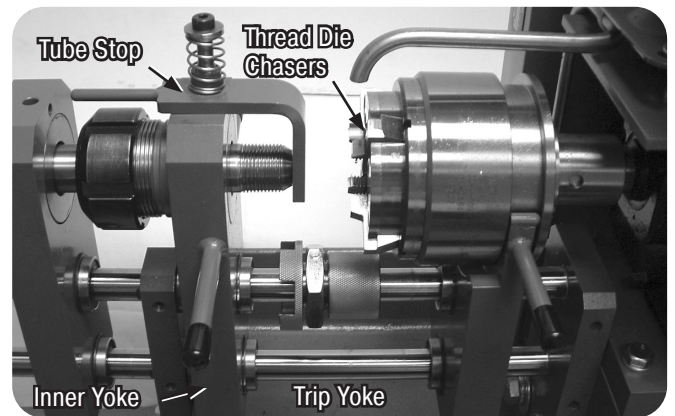

Figure 10
5.5.1 Rotate tube-stop 90° to the left by lifting up, rotating and letting down (Figure 10). Insert coned, unthreaded tubing loosely through both collets. Bottom tube end against tube-stop and tighten collet nut on the inner yoke by hand. Then rotate tube-stop back to original position and tighten collet nut on the inner yoke with a spanner wrench. Pull the inner yoke away from the motor and against the frame bracket. Tighten the collet nut on the outer yoke with a spanner wrench.
- 5.15 Rotate tube-stop 90° to the left by lifting up, rotating and letting down (Figure 10). Insert coned, unthreaded tubing loosely through both collets. Bottom tube end against tube stop and tighten collet nut on the inner yoke by hand. Then rotate tube-stop back to original position and tighten collet nut on inner yoke with spanner wrench. Pull the inner yoke away from the motor and against the frame bracket. Tighten the outer collet nut with spanner wrench.